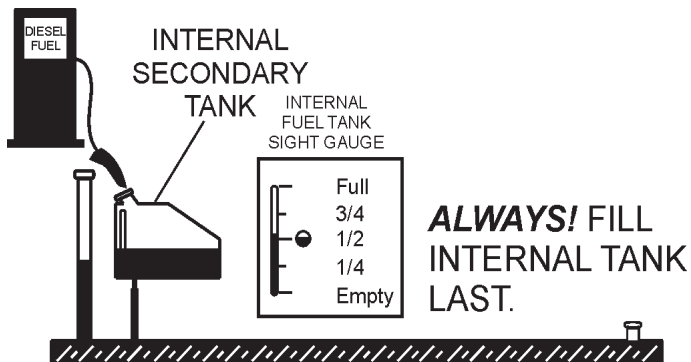

Figure 36. Filling Secondary Internal Fuel Tank
DO NOT OVER-FILL fuel system. Leave room for fuel expansion. Fuel expands when heated (Figure 36).
4. Once the trailer tank is full, the **secondary inner tank** can be filled (See Figure 36). Notice how the trailer filler tube level rises when the internal tank is filled.